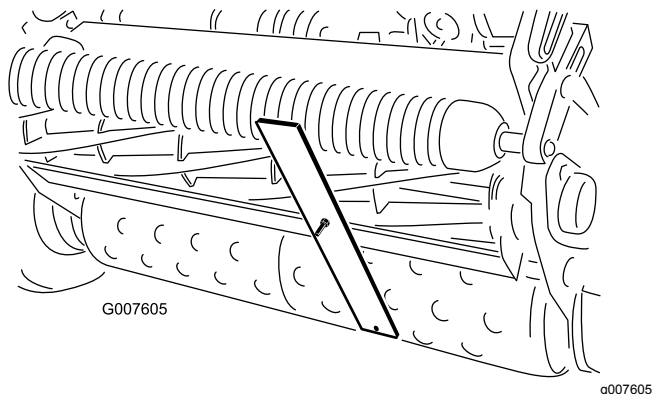

Figure 56
4. Hook the screw head on the cutting edge of the bedknife and rest the rear end of the bar on the rear roller (Figure 56).